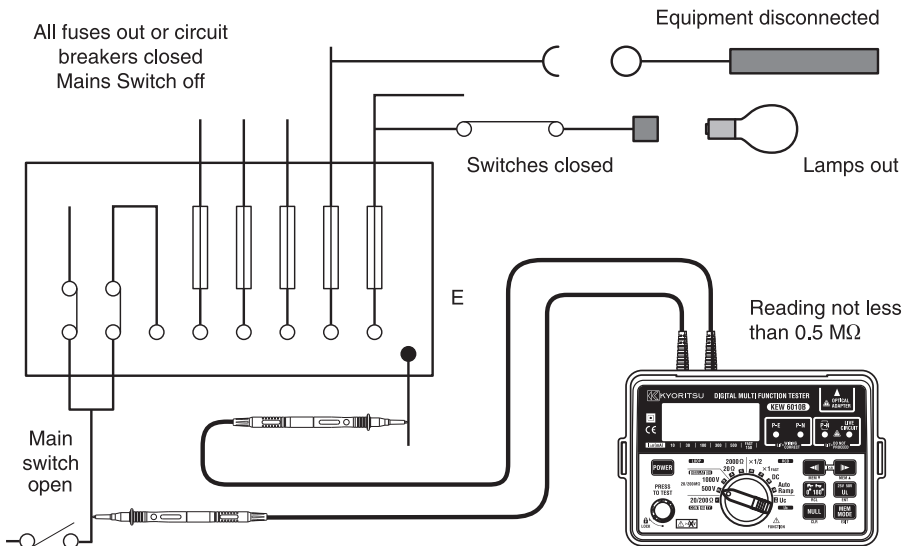

Fig 7
2. Attach the test leads to the instrument and to the circuit or the appliance under test. (see Figs 7 & 8)